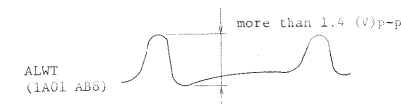

Fig. 3 Low Tape Output
3. Check that check terminal "1A01 AB8" output voltage level is +1.4 Vp-p or more. (Fig. 3)